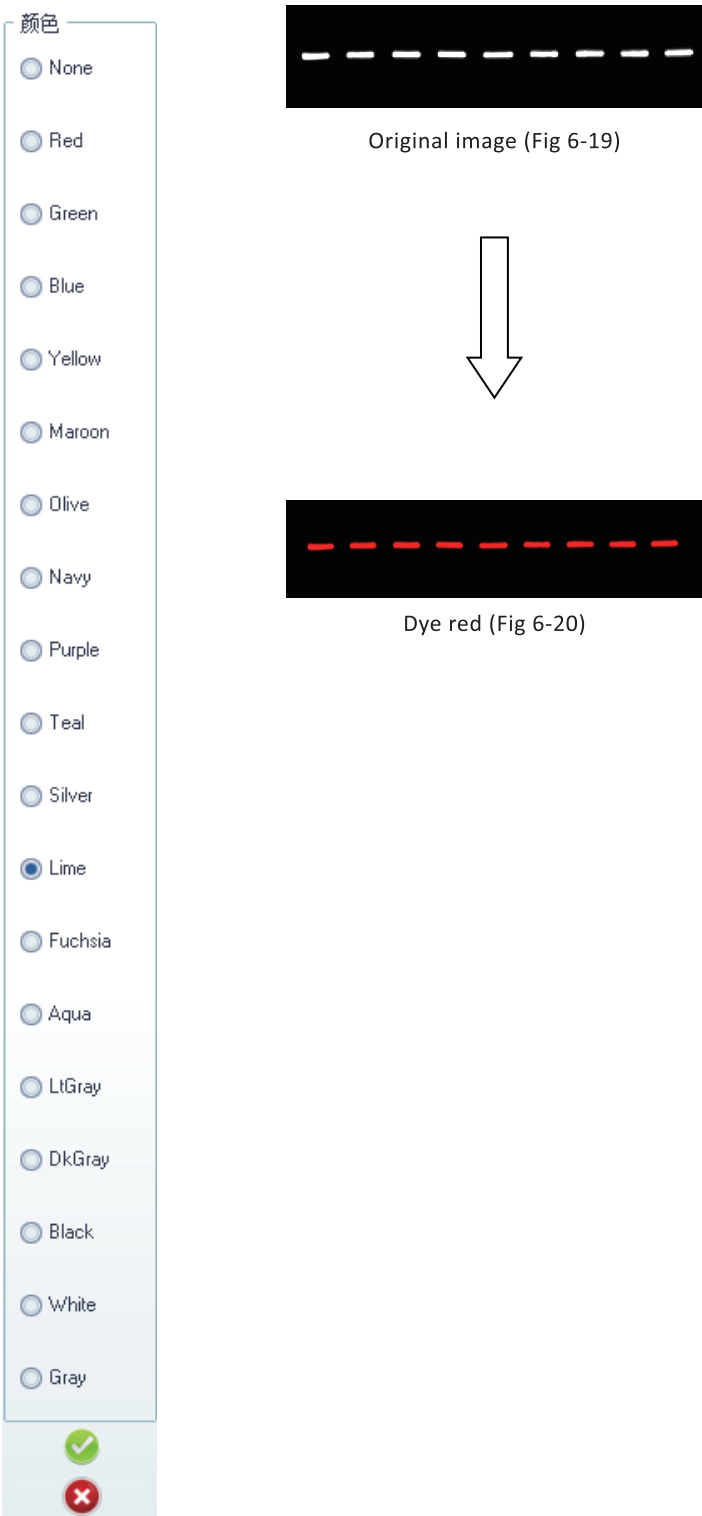

Fig 6-18
6.5.8 Dyeing: Click the <Dye > button to pop up the stain window (see Figure 6-18), you can stain the image.